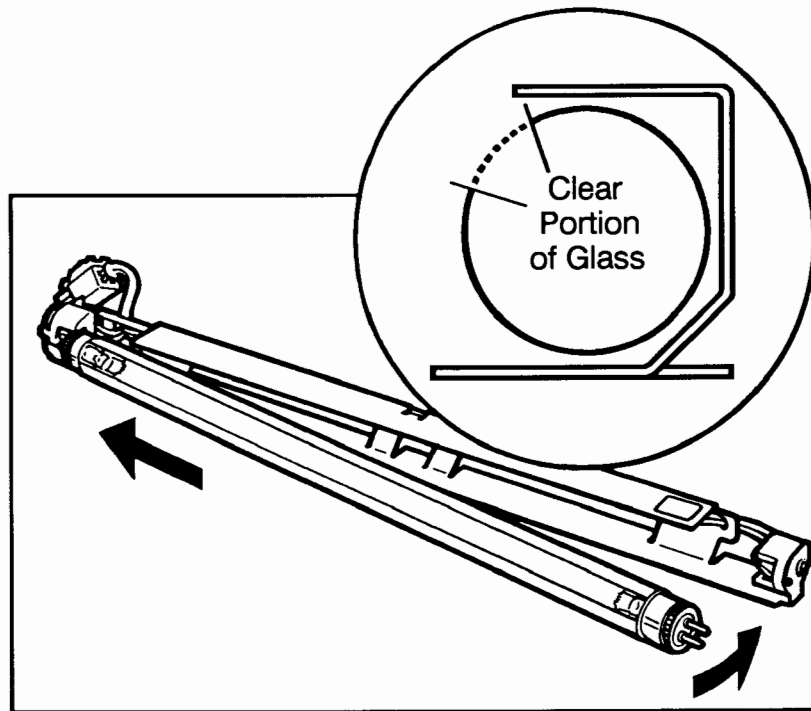

Figure 21. Inserting the New Lamp
- 12.** Insert the new lamp making sure the clear portion of the glass faces out from the lamp holder. See figure 21.